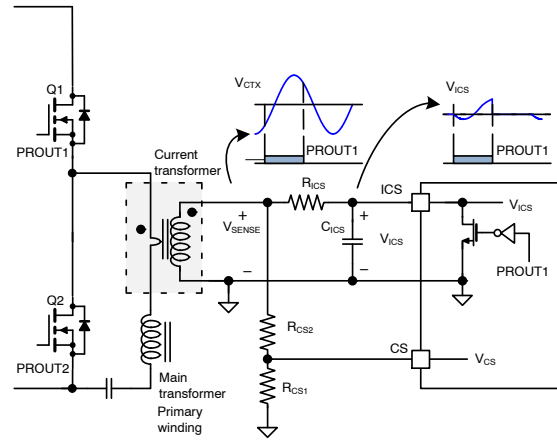
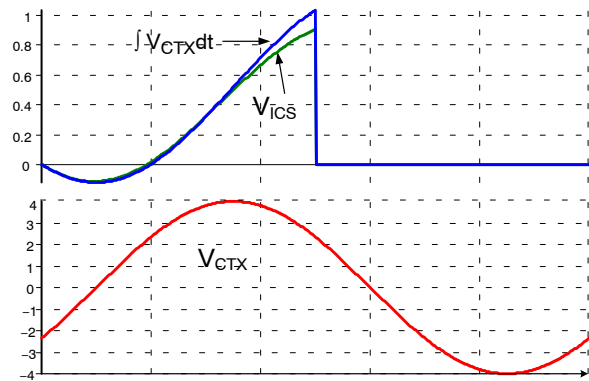
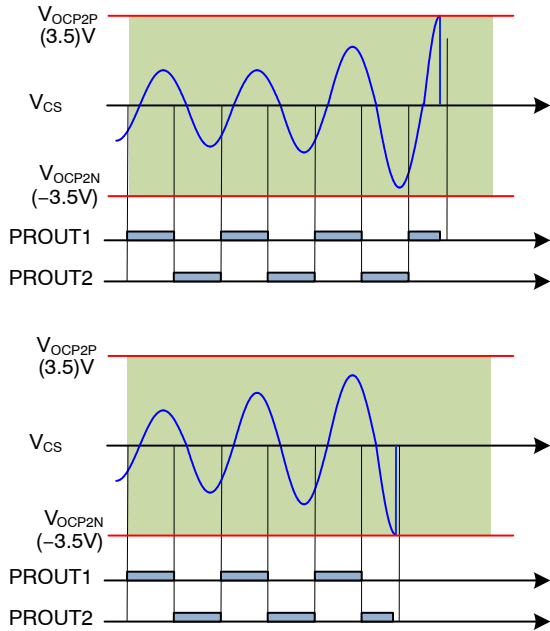

Figure 61. Current Sensing of NCV4390
Figure 62. Disable PWM mode with COMP Voltage
Figure 66. Over-Current Protection of the CS Pin
NCV4390 senses instantaneous switch current and the integral of the switch current as illustrated in Figure 61. Since NCV4390 is located in the secondary side, it is typical to use a current transformer for sensing the primary side current. While the PROUT1 is LOW, the ICS pin is clamped at 0 V with an internal reset MOSFET. Conversely, while PROUT1 is high, the ICS pin is not clamped and the integral capacitor (C_{ICS}) is charged and discharged by the voltage difference between the sensing resistor voltage (V_{SENSE}) and the ICS pin voltage. During normal operation, the voltage of the ICS pin is below 1.2 V since the power limit threshold is 1.2 V. The current sensing resistor and current transformer turns ratio should be designed such that the voltage across the current sensing resistor (V_{SENSE}) is greater than 4 V at the full load condition. Therefore the current charging and discharging C_{ICS} should be almost proportional to the voltage across the current sensing resistor (V_{SENSE}). Figure 62 compares the VICS signal and the ideal integral signal when the amplitude of V_{SENSE} is 4 V. As can be seen, there is about 10% error in the VICS signal compared to the ideal integral signal, which is acceptable for most designs. If more accuracy of the VICS is required, the amplitude of V_{SENSE} should be increased.
2. Over-Current Protection (OCP2): When V_{CS} is higher than 3.5 V or lower than -3.5 V, over-current protection (OCP2) is triggered. The instantaneous primary side current is also sensed on CS pin. Since the OCP2 thresholds on the CS pin are 3.5 V and -3.5 V as shown in Figure 66, the CS signal is typically obtained from V_{SENSE} by using a voltage divider as illustrated in Figure 61. 150 ns debounce time is also added for OCP2